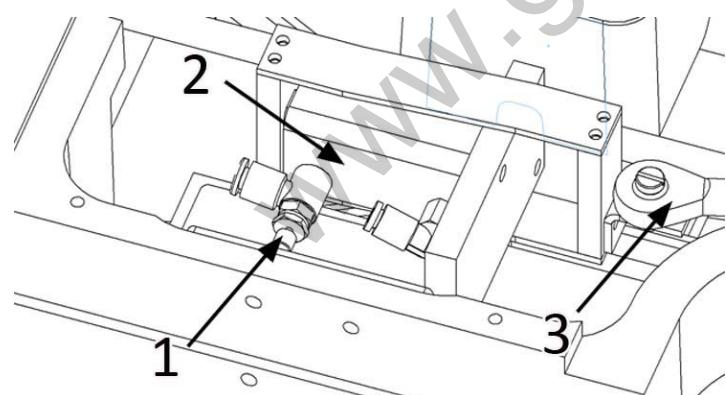

Fig. 39
Increasing or decreasing of the speed of knife is done by the valve (1) on the pneumatic cylinder (2) which is placed under tthat must be he cover in the baseplate. The rod is connected with pneumatic cylinder by hinge bearing (3), Fig. 39.